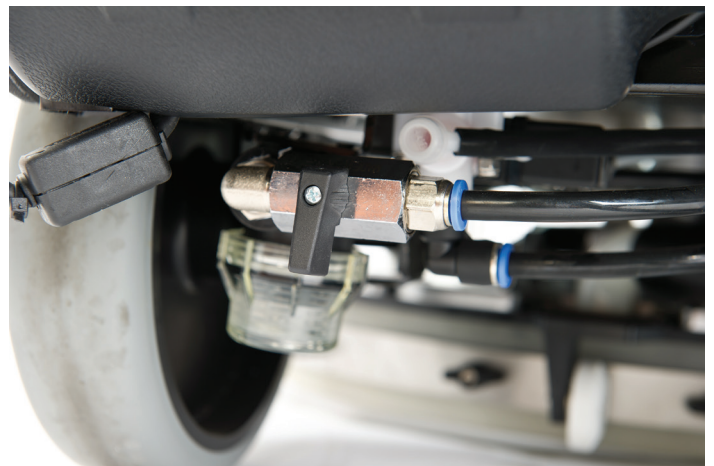

Fig 13
- Check that the water filter is clean and free of debris (Fig 13).